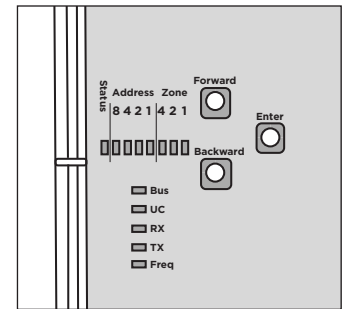

Figure 4: Learn In LEDs and Buttons
- d. Connect the black wire to the **GND(B)** terminal while pressing the Enter button. See Figure 4. This clears the 738T's memory and prepares it for programming.
1. Get the 738T ready to learn in transmitters by pressing the **Forward** and **Backward** buttons at the same time. See Figure 4. The **Address** LEDs will light displaying an address. The default is address 5.